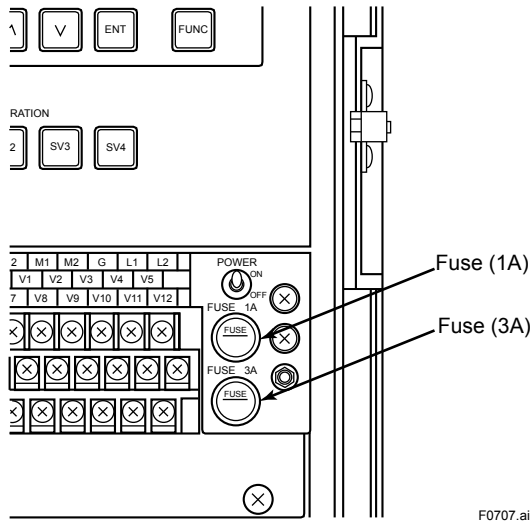

Figure 7.6 Replacement of Fuses
- (1) Turn off the power switch.
- (2) Remove the caps of the fuse holders on the front panel of the converter (turn counterclockwise) (see Figure 7.6).
- (3) Replace the fuses.
- (4) Close the caps; now the procedure is completed.
- (5) Finished.